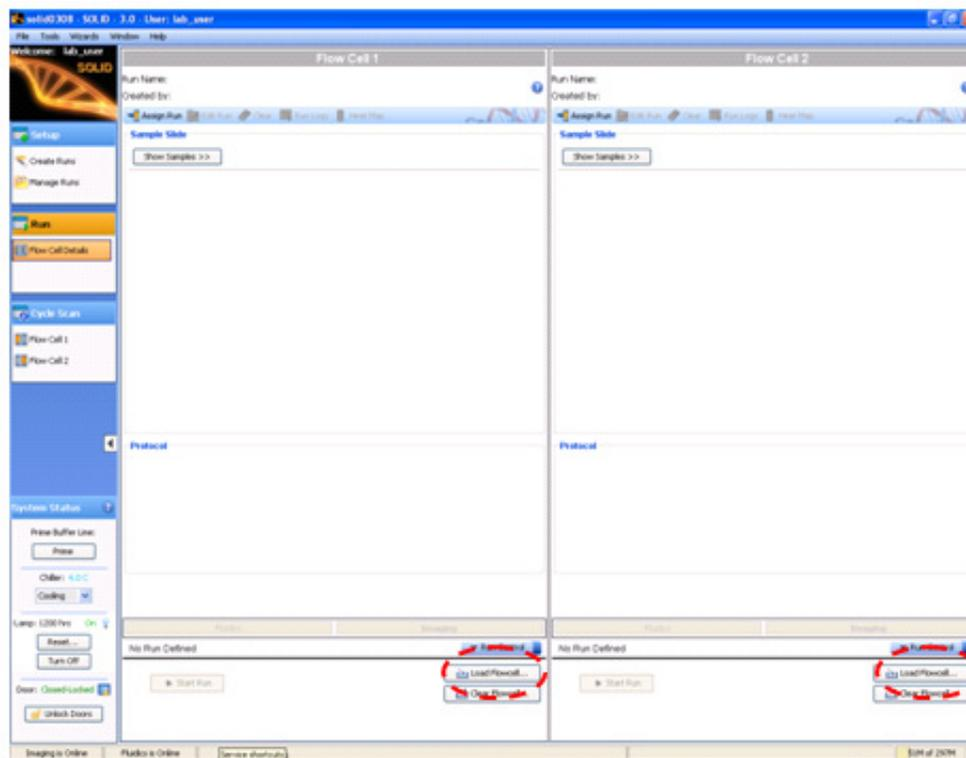

Figure 23 Click **Load Flowcells** to load the flowcell with buffer.
10. Click the **Load Flowcells** button located at the bottom of the flowcell panel. Each flowcell has its own Load Flowcells button (see Figure 23).